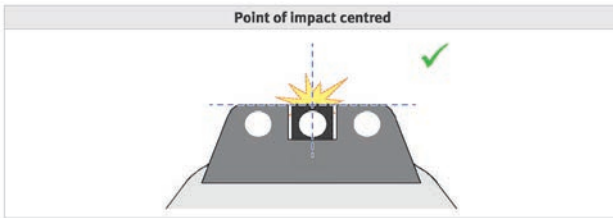
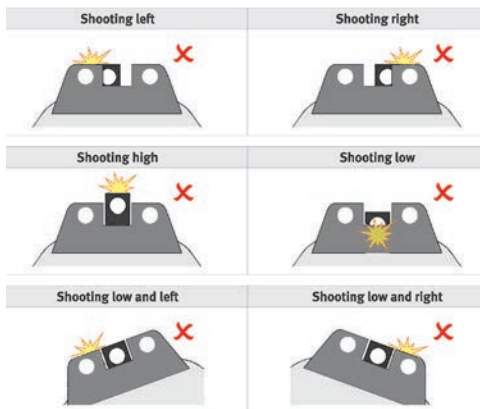

Figure 8 – Correct sight alignment
Figure 9 – Common sight alignment errors
The VP is equipped with a three-dot sighting system, like those first introduced by HK on the P7 series pistol in the 1970s. The sights are adjustable for windage by drifting. Sights are installed and aligned by HK technicians at the factory. Figure 8 shows correct sight alignment, generally for the VP series it is a “US Center” hold. Figure 9 shows common sight errors.
1. Acquire the proper sight alignment and sight picture (see Figure 8).